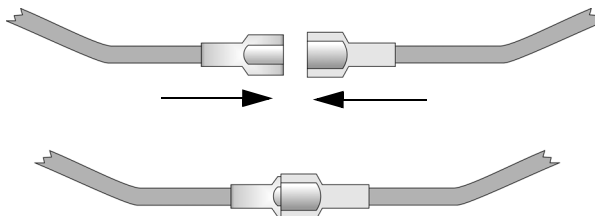

Figure 4.6 Splicing Control panel Battery Cable to RBB Battery Cable Extenders
2. Connect the main control panel battery cables to the battery cable extenders as shown in Figure 4.6.